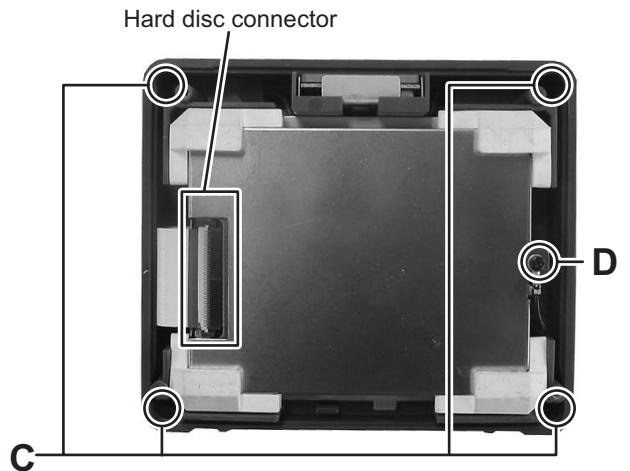

Fig.4
(See Fig.4, 5)
- (1) Remove the four screws **C** attaching the front panel. (See Fig.4)
(See Fig.4)